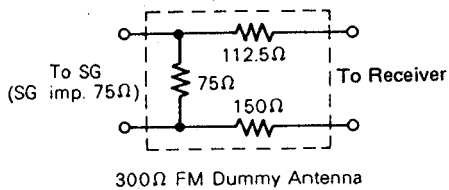

Fig. 6 (Abb. 6)
- 300 Ohm FM dummy antenna Refer to fig. 6